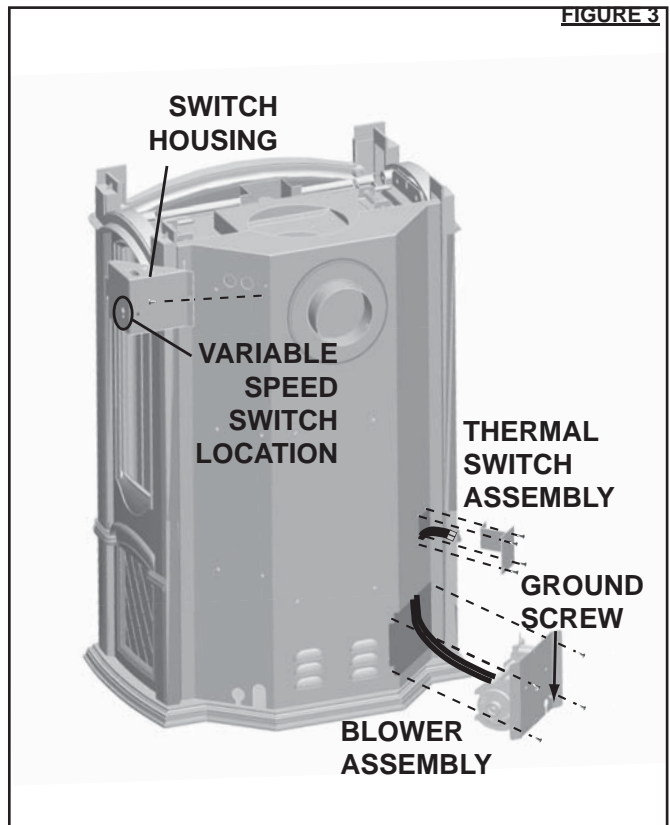

FIGURE 3
3. Ensure the thermal disk is touching the wall of the firebox. Secure the thermal disk assembly to the rear panel using 4 of # 8 screws supplied. (FIGURE 3)
6. Remove the switch housing, connect the variable speed switch to the jumper wire and mount the switch to the side of the housing. Attach and secure the variable speed switch using the nut provided. Reinstall the switch housing. (FIGURE 3)